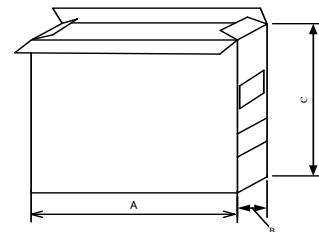

Fig.8.2.3-3
3)Marking on outer case (see Fig.8.2.3-5~7):